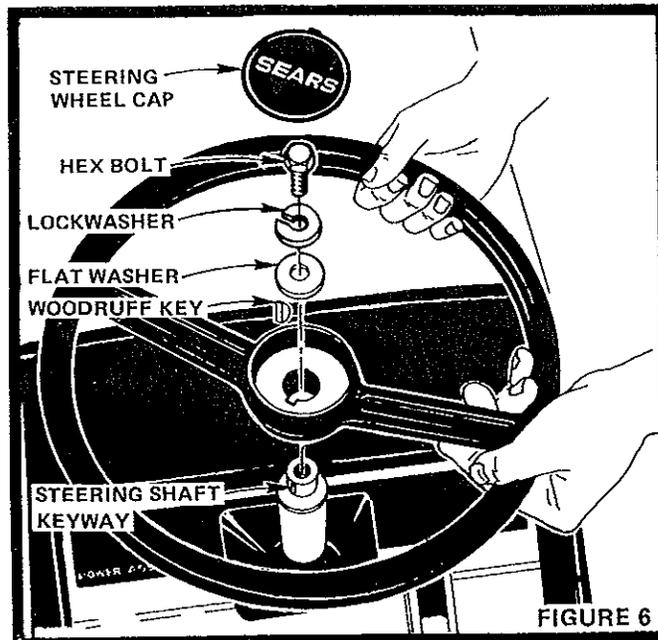

FIGURE 6
- b. Fasten with Flat Washer, Lockwasher and Hex Bolt (Fig. 6). Tighten securely.